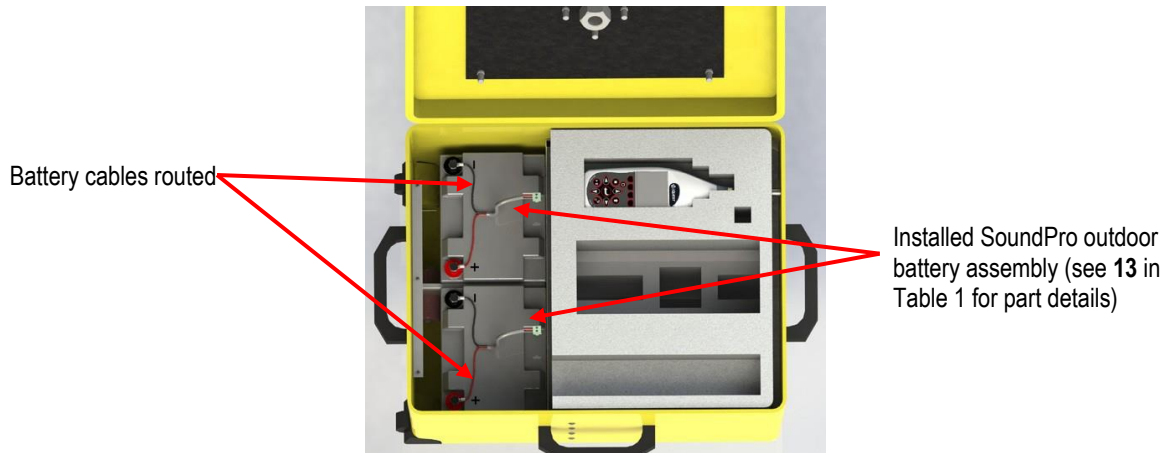

Figure 4: Connecting two SoundPro outdoor battery assemblies
- As displayed in Figure 4 below, it is optional to connect two SoundPro outdoor battery assemblies (see **13** in Table 1) inside the case for additional battery power.
- While positioning the battery cover over the batteries in the correct orientation, take one of the battery wires and its green connector, and feed it through one of the rubber grommets. Take the other connector and feed it through the other grommet. Carefully route the wires under the cover so that they will not be pinched (see Figure 4)
- Position and secure the cover in place with the six (6) screws you removed in Step (3).
- Connect the two battery cables into the Power Distribution Panel (see Figure 4) at the two connectors near the RED fuses. These two connectors are the only connectors that may be used for the batteries.